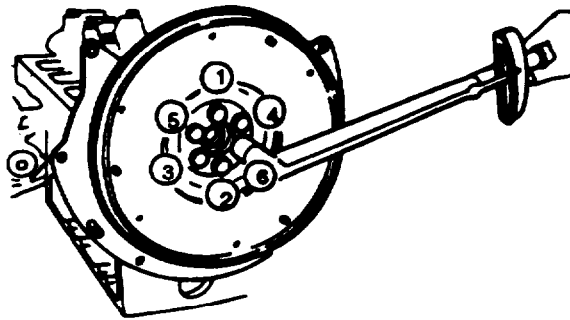

FIGURE 3-110. Flywheel Bolt Tightening Sequence
- e. Position basic flywheel (6) on crankshaft, aligning dowel pin.
- f. Coat threads of six flywheel attaching bolts (4) with engine lubricating oil (ML-L-2104).
- g. Install flywheel washer (5) on crankshaft and install six bolts (4). Tighten bolts to 79.5 ft-lbs (107.9 Nm) in sequence shown in FIGURE 3-110.